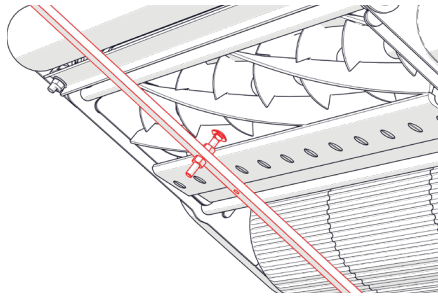

Fig. 6G - Repeat process on the other side
8. Repeat step 7 for the second position on the other side of the cylinder (Fig. 6G).